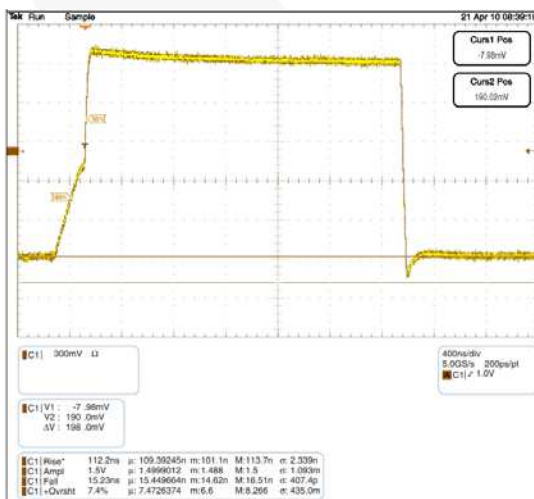

Figure 14. Rise Time Driving 600pF Load
Due to the I²C open-drain topology, I²C drivers are not push/pull devices. Logic LOWs are “pulled down” (I_{sink}), while logic HIGHs are “let go” (3-state). For example, when the source lets go of SCL (SCL always comes from the source), the rise time of SCL is largely determined by the RC time constant, where $R=R_{PU}$ and C =the bus capacitance. If the FXMHD103 is attached to the source [on the A port] and there is a source on the C port, the Npassgate acts as a low-resistive short between both ports until either of the port’s $V_{CC/2}$ thresholds is reached. After the RC time constant has reached the $V_{CC/2}$ threshold of either port, the port’s edge detector triggers both dynamic drivers to drive their respective ports in the LOW-to-HIGH (LH) direction, accelerating the rising edge. The resulting rise time resembles the scope shot in Figure 14. Effectively, two distinct slew rates appear in rise time. The first slew rate (slower) is the RC time constant of the bus. The second slew rate (much faster) is the dynamic driver accelerating the edge.
The FXMHD103 dynamic drivers have enough current sourcing capability to drive an 800pF capacitive bus. The Figure 14 scope shot is of an FXMHD103 driving a lumped load of 600pF. Notice the (30% - 70%) rise time is only 112ns ($R_{PU}=5K\Omega$). This is well below the maximum rise time of 1000ns in Standard Mode (100KHz) or 300ns in Fast Mode (400KHz).